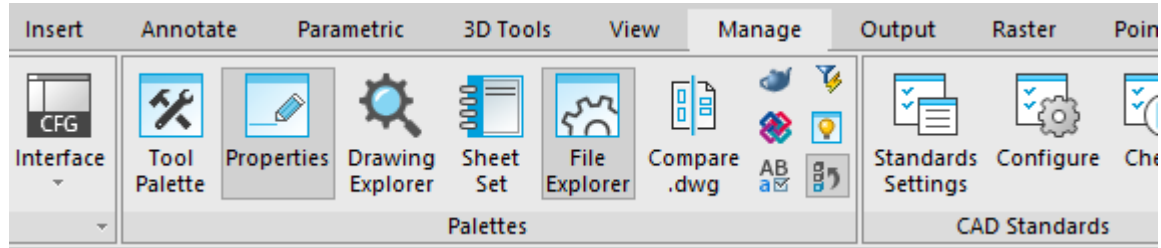

Fig. 56. File Explorer location in the Ribbon
2. Open the Manage ribbon tab – Palettes – File Explorer (fig. 56):